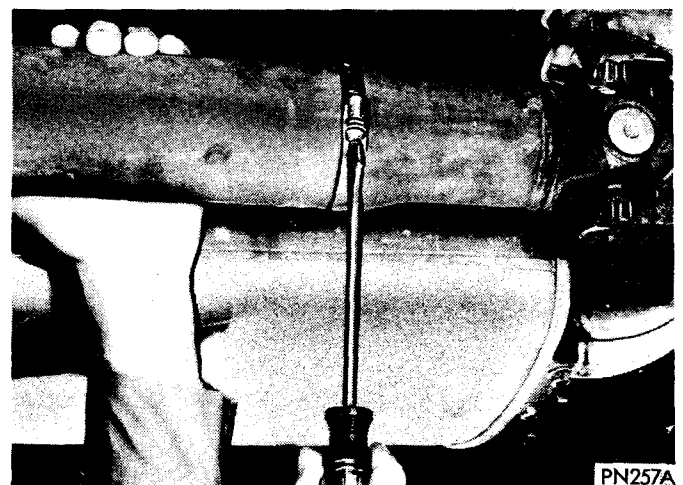

Fig. 14—Clamp Installed at Position Number One
(1) Raise vehicle on hoist and install jack stands.
(2) Clean all foreign material from shaft (mud undercoating, etc.).
(3) Examine shaft for missing balance weights, broken welds, bends or dents. **If the shaft is bent, it should be replaced.**
(4) Make sure that cross and rollers are not worn and that they are properly centered in the shaft and that their retainers are properly installed.
(5) Check or retighten pinion flange bolts.
(6) Remove wheelcovers. Mark rear wheel and stud to aid in proper indexing at reassembly. Remove wheel and tire assemblies. Reinstall wheel nuts to hold brake drums in position.
(7) Mark the shaft at four 90° intervals, approximately six inches forward of the weld at the rear end, and number them one through four.
(8) Install and tighten a screw type hose clamp on the prop shaft with screw at position number one (Fig. 14).
(9) Connect a tachometer. Start the engine, place vehicle in gear and accelerate engine to R.P.M. where vibration occurred. Compare vibration level to